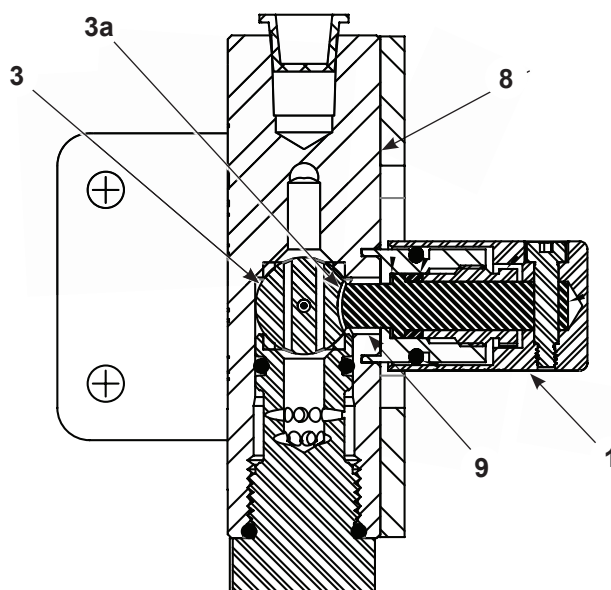

Figure 6 Cross-section View of Stem Seated in Notch
1. Apply low temperature lithium grease to the replacement lower seat (4) and upper seat (7).
3. Using the installation tool, insert the upper seat (7) into the manifold body (8), ensuring the flat bottom side is seated properly in the manifold.
4. Turn the flow selector knob (1) to the *Bypass* position to ready the knob's internal stem to engage with the machined notch (3a) on the orifice ball.
5. Align the bypass holes on the orifice ball (3) and the installation tool. Note, the installation tool ensures the machined notch (3a) on the orifice ball will install in a vertical position.
6. See Figure 6. Install the orifice ball (3) into the manifold body (8), ensuring the machined notch (3a) on the orifice ball fits onto the flow selector knob's stem (9) which protrudes into the inside of the manifold body (8).
7. Gently holding the orifice ball (3) in place with the installation tool, temporarily rotate the flow selector knob (1) into *Orifice* position to keep the orifice ball (3) in place. Remove the installation tool.